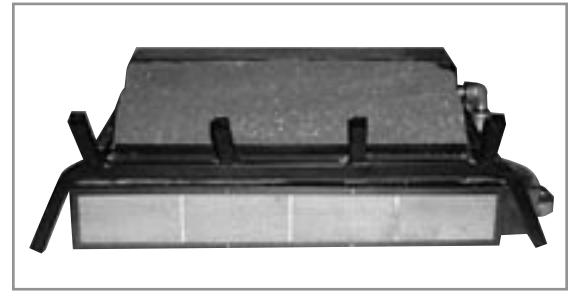

Figure 4- Granule placement
A. Spread granules (Part #16) over the installed burner pan. Granules should be sloped to the same angle as the burner pan filling the entire pan. (See Figure 4).